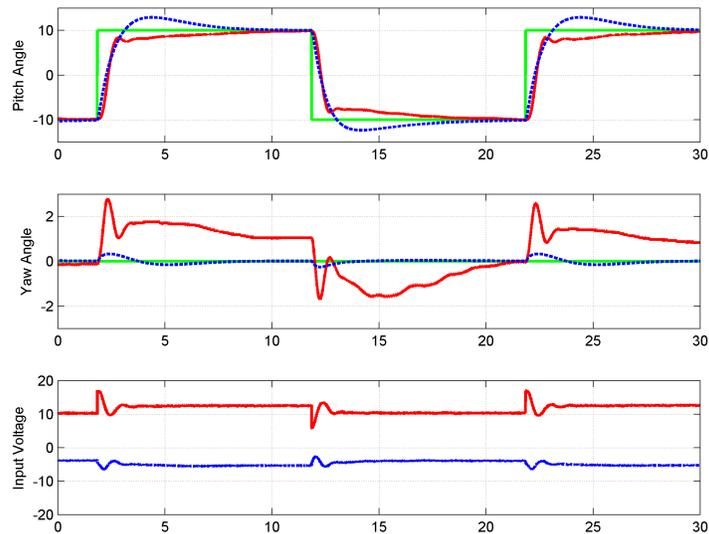

Figure 5.18: Closed-loop LQR+I response under pitch reference step
19. Set the *Amplitude: Pitch (deg)* to 10 and the *Pitch: Constant (deg)* to 0 to observe the LQR+I response under a step pitch reference. The result should be similar to the response shown in Figure 5.18. Note that the steady-state error is removed.